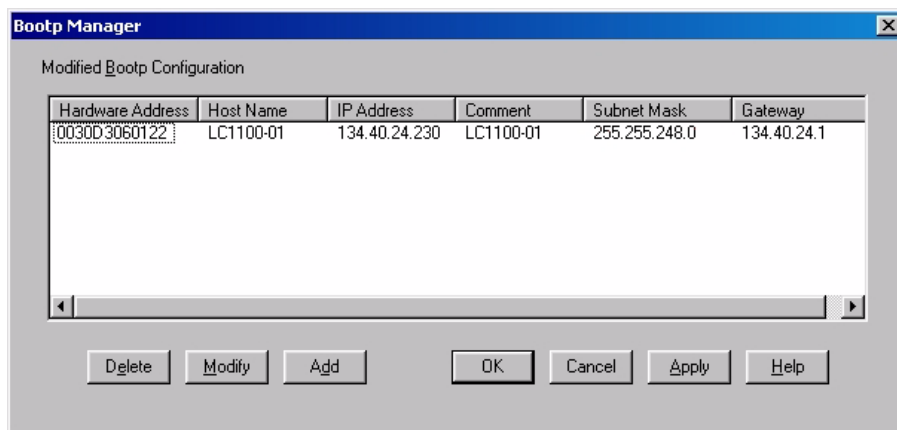

Figure 10 Bootp Manager
- Select *Configure -> Bootp Manager*. All entries made above are shown in Figure 10 on page 35.